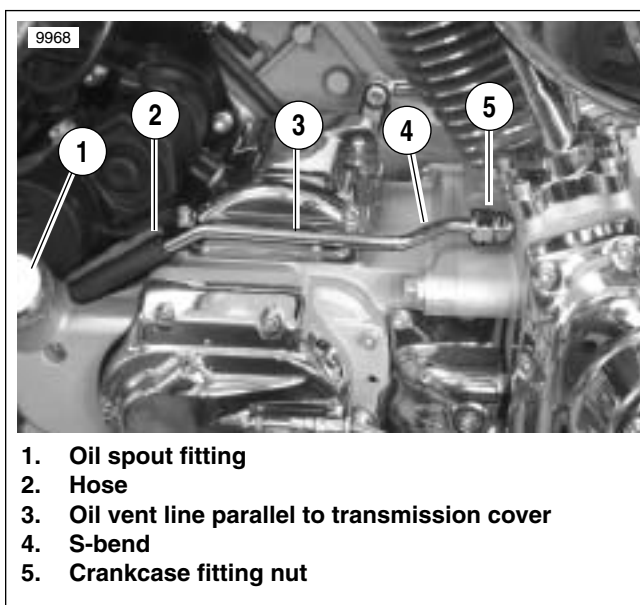

Figure 3-40. Oil Vent Line (clamps removed)
1. See Figure 3-40. Back the chrome nut off of the crankcase oil fitting.